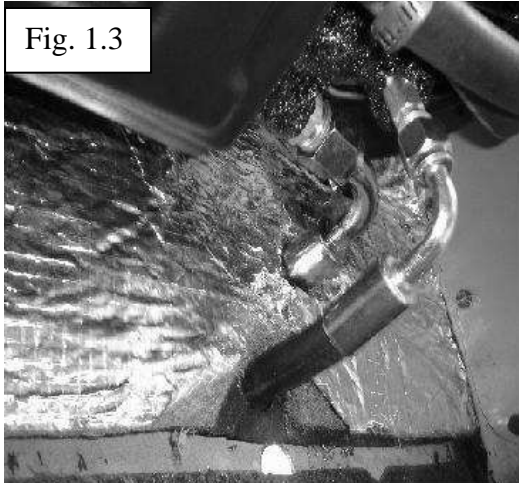

Fig. 1.3
- mark where the hose meets the firewall, Figure 1.3. That will be the location for the grommet. If the hose is kinked or tight try a straight fitting on the evaporator connection. We do carry many fittings if a 45 or 180 degree is needed please contact us.